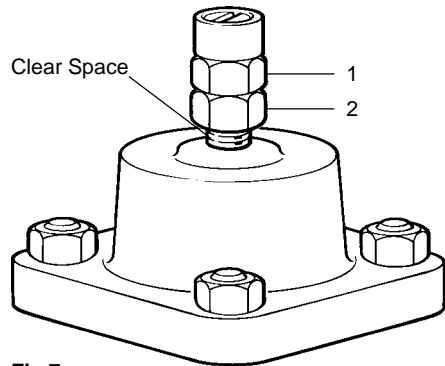

Fig 7
11 If it is seen that the adjustment nut (1) and lock nut (2) assembly rises with the rod clear of the top face of the cover (3) as in Fig. 7, it is an indication that the sensor is being subjected to a temperature in the excess of normal but not sufficiently high to bring the fail safe device into operation.